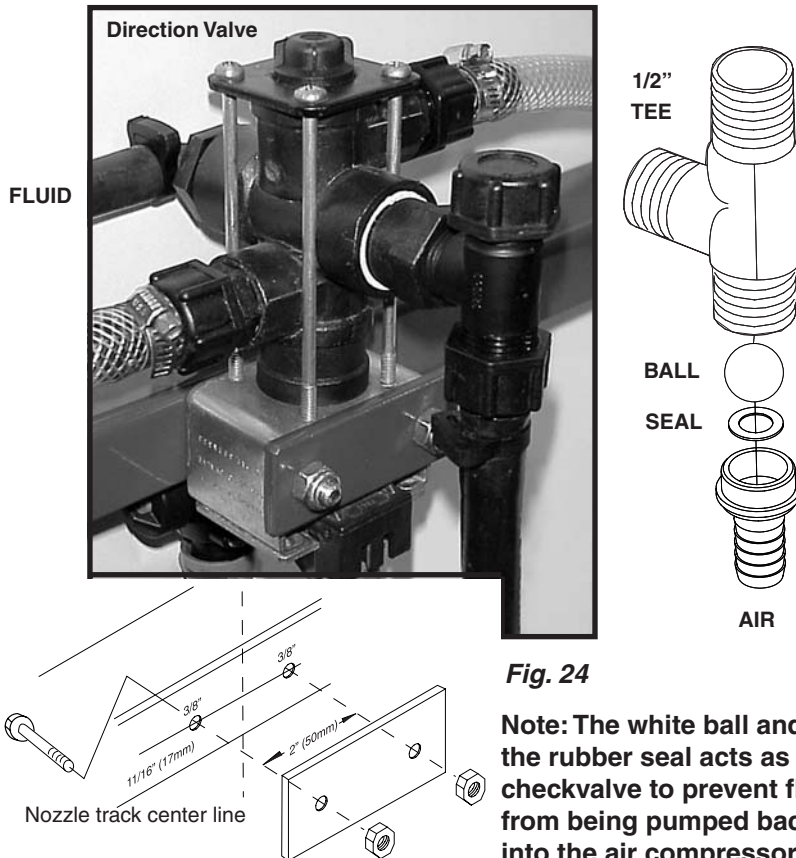
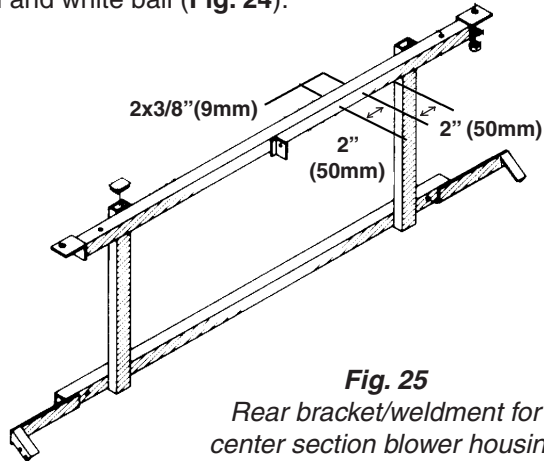
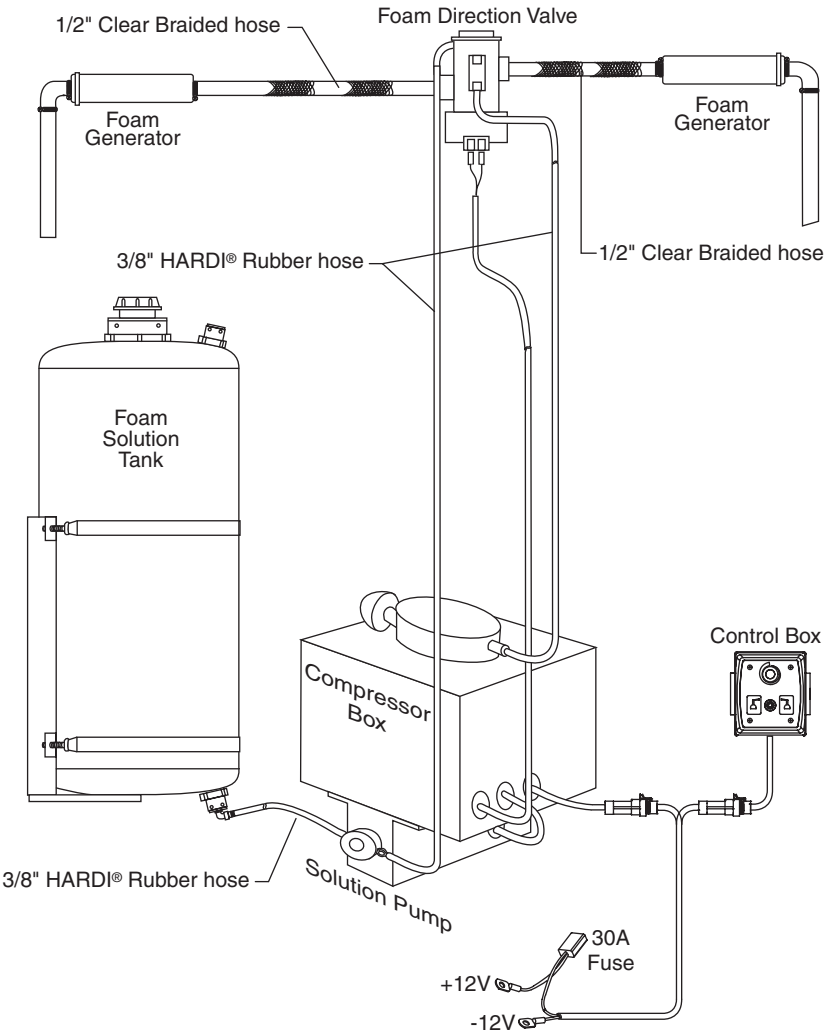

Fig. 24
Fig. 25
Fig. 28
2. Locate and drill (2) 3/8” holes as shown in (Fig. 24).
3. Bolt the Foam Direction Valve to the nozzle track using (2) bolts (M8x70mm) turned from the inside out (Fig. 24). Have the valve and 1/2” tee fitting facing back, away from the main tank.
4. Make sure the 1/2” tee fitting is turned vertical and that it contains the rubber seal and white ball (Fig. 24).
1. Locate and drill (2) 3/8" holes as shown in (Fig. 25).
2. Bolt the Foam Direction Valve to the weldment using (2) bolts (M8x110mm, #421232 or equivalent.) Have the valve and the 1/2" tee fitting facing back, away from the blower housing.
3. Make sure the 1/2" tee fitting is turned vertical and that it contains the rubber seal and white ball (Fig. 24).
2. Locate and drill (2) 3/8" holes as shown in (Fig. 24).
3. Bolt the Foam Direction Valve to the nozzle track using (2) bolts (M8x70mm) turned from the inside out (Fig. 24). Have the valve and 1/2" tee fitting facing back, away from the main tank.
4. Make sure the 1/2" tee fitting is turned vertical and that it contains the rubber seal and white ball (Fig. 24).
2. Make sure the 1/2" tee fitting is turned vertical and that it contains the rubber seal and white ball (**Fig. 24**).
2. Bolt the Foam Direction Valve to the EC - Control Unit bracket on the center frame using (2) bolts (M8x70mm). Have the valve and the 1/2" tee fitting facing the main tank.
3. Make sure the 1/2" tee fitting is turned vertical and that it contains the rubber seal and white ball (**Fig. 24**).
For installation of hoses, please refer to (Fig. 24) and (Fig. 28).
7. Make sure the check valve on the Foam Direction Valve is functional (**Fig. 24**, p. 29)